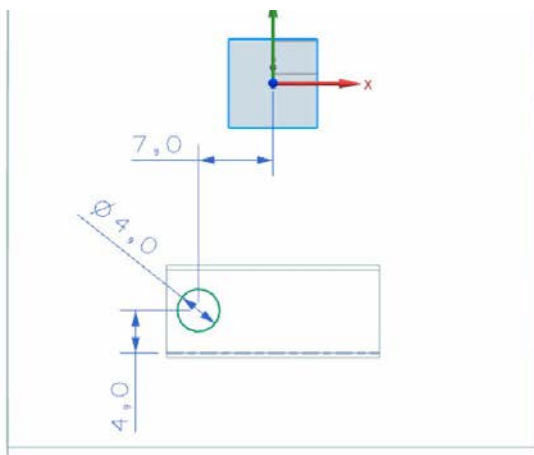

Figure 11-79 Sketch created
- g. Create the fifth feature by extruding the sketch and mirror it, refer to Figures 11-79 through 11-82.
1. Create the sketch for this feature by selecting the top face of the third feature as the sketching plane, as shown in Figure 11-79.